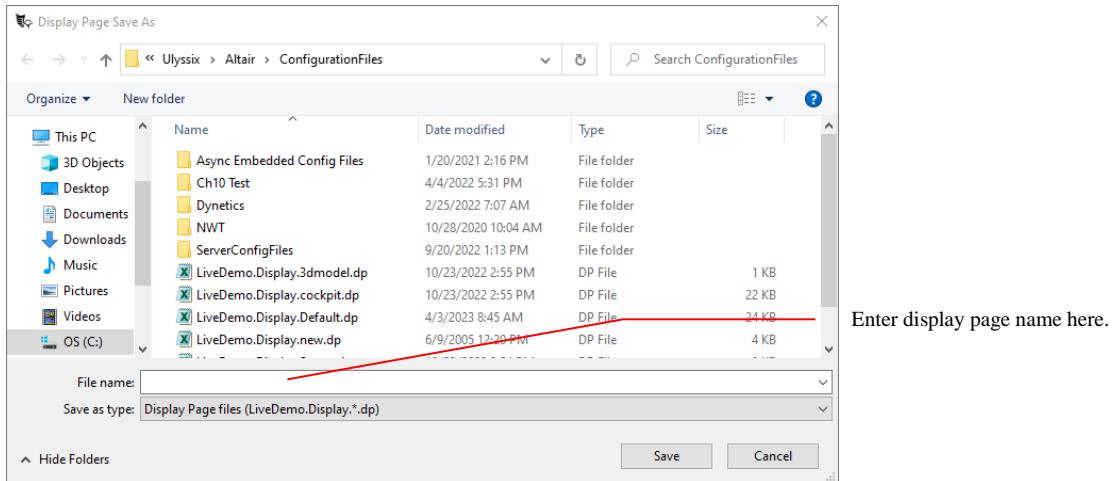

Figure 153 – Display Page Save As
1. After creating a display page by opening data displays, setting properties, and loading parameters, save the display page by selecting the **Displays\Save Display Page** menu option. The display page “save as” screen will be displayed. (See Figure 153 – Display Page Save As.)